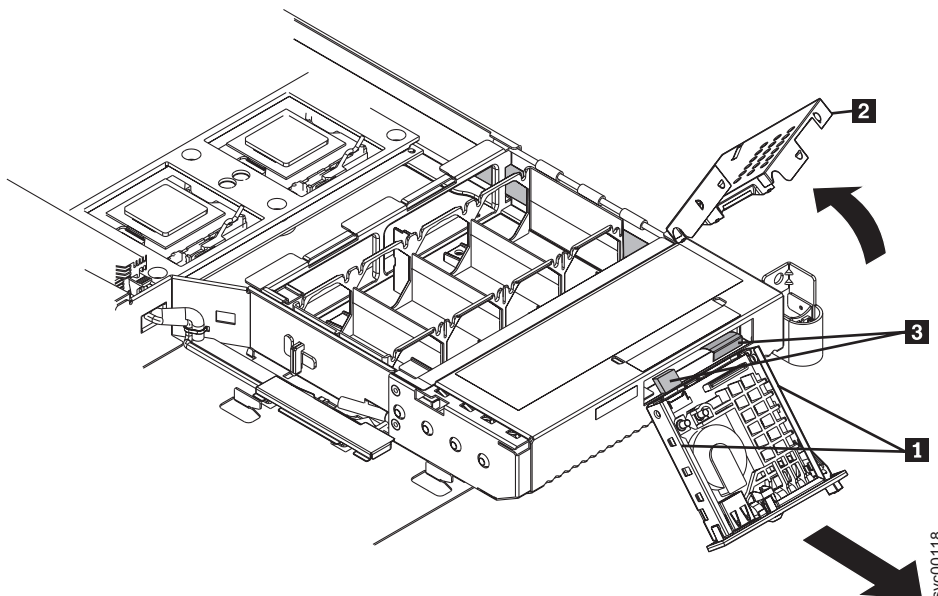

Figure 219. SAN Volume Controller 2145-8F2 with exposed operator-information panel
6. Use a small screwdriver to push in the retention springs (**1** in Figure 219) on the sides of the operator-information panel assembly.
9. Rotate the assembly cover (**2** in Figure 219) up and off of the operator-information panel assembly.
10. Unplug the two cables from the rear of the assembly (**3** in Figure 219).